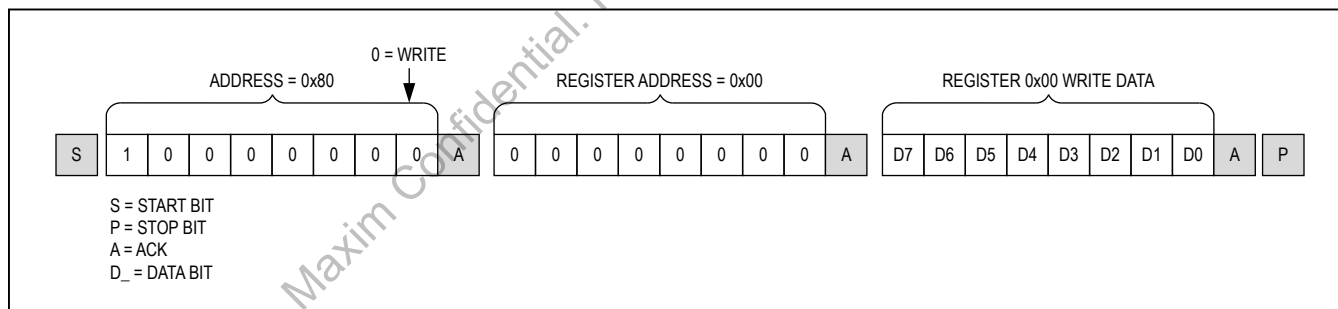
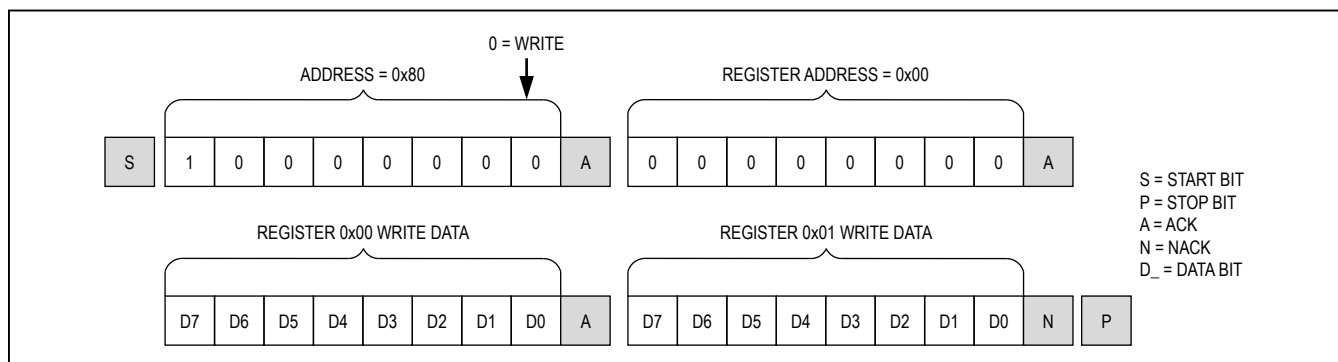

Figure 43. Format for I²C write
Figure 44. Format for I²C Write to Multiple Registers
Writes to the deserializers comprise the transmission of the slave address with the R/W bit set to zero, followed by at least one byte of information. The first byte of information is the register address or command byte. The register address determines which register of the device is to be written by the next byte, if received. If a STOP (P) condition is detected after the register address is received, the device takes no further action beyond storing the register address (Figure 43). Any bytes received after the register address are data bytes. The first data byte goes into the register selected by the register address, and subsequent data bytes go into subsequent registers (Figure 44). If multiple data bytes are transmitted before a STOP condition, these bytes are stored in subsequent registers because the register addresses autoincrements.